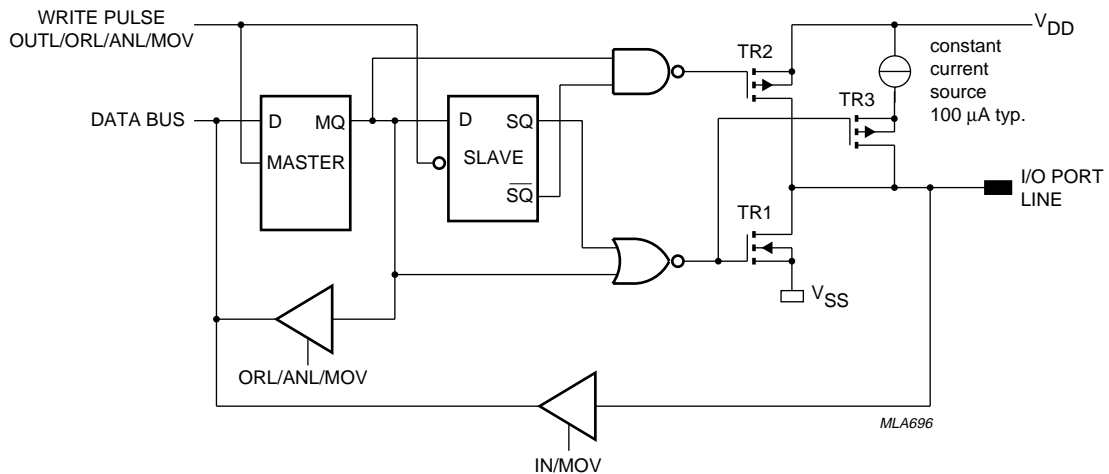

Fig.11 Standard output with switched current source.
The standard port configuration is illustrated in Fig.11. When a logic 0 is written to the master/slave flip-flop, TR2 and TR3 are both in the OFF condition. TR1 turns ON and drives the output to V_{SS} .
1. **Standard output;** quasi-bidirectional I/O with switched pull-up current source of 100 μ A (typ.) and p-channel booster transistor TR2. TR2 is only active for 1 clock cycle during LOW-to-HIGH transitions (see Fig.11).